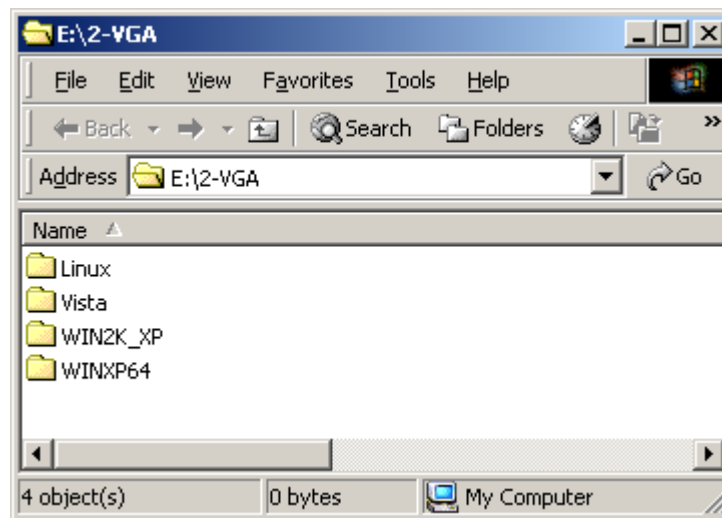

Figure 7-8: Select the Operating System
Step 3: A new window opens (**Figure 7-8**).